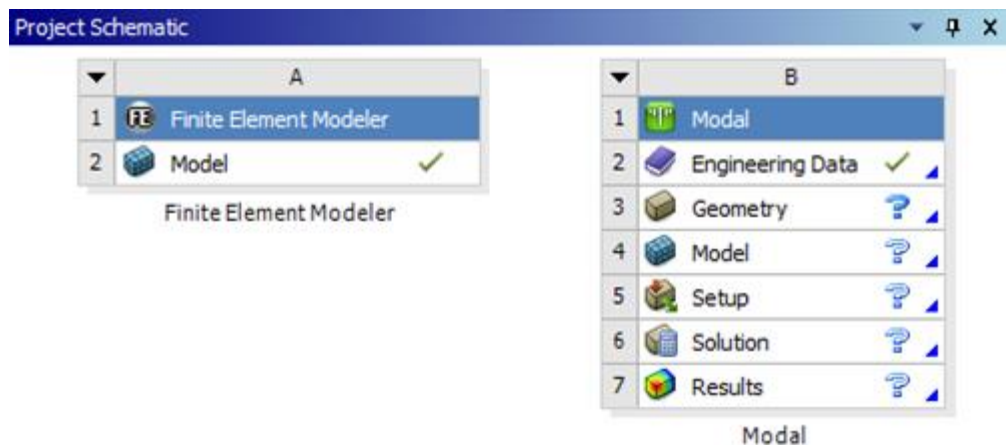

Figure 2.5.
14. Create a project of modal analysis by double-clicking on a **Modal** component in the taskbar, Figure 2.5.